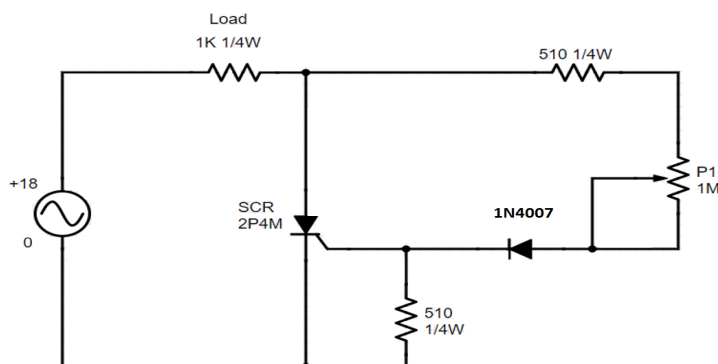

Figure 13
1. Connect the circuit, as shown in Figure 13, using patch cords.